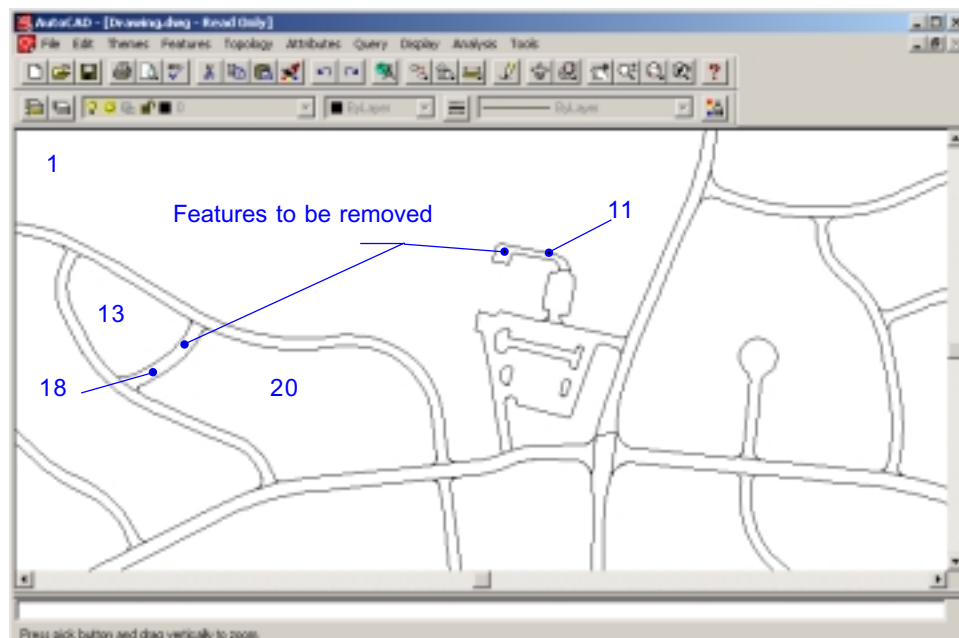

Figure 12
- (2) Using the IDENTIFY tool described earlier, note the POLYGON ID of each polygon that is to be merged. *In the sample coverage shown in figure 12, feature 11 is to be removed by merging it into feature 1 and feature 18 is to be removed by merging it into features 13 and 20. By default ArcCAD® gives the perimeter area of the coverage a POLYGON ID of 1.*
- (3) Follow the steps in section **3-a Preparing the data** to reopen the link table of the coverage that you are editing.
- (4) In this example all the features that are to be removed by merging them into nonpavement (unlinked) sections. To accomplish this the PIDs of features 11 and 18 must be changed to NONPAVEMENT in the link table (be careful to use the correct syntax when editing the PID column).
- (5) Any nonpavement features in the coverage that you wish to keep must be given a unique PID in order to prevent them from being merged into their adjacent nonpavement features. The most useful technique is to give the feature a descriptive PID. *i.e. if a gravel parking lot is in the coverage because it will be paved in the future its current PID will be NONPAVEMENT in the link table. If the DISSOLVE command is used this feature will be merged into its neighboring nonpavement features in the coverage. To prevent this the parking lot can be given a new PID such as GRAVEL1. This will prevent this feature from being removed from the coverage. Note that if the gravel lot has a neighboring lot that will become a separate section when the lots are paved its PID must also be unique or the two lots will be merged into each other. For this reason the second lot's PID could be changed to GRAVEL2.*
- (6) After the changes have been made to the link table click EXPORT TO DBASE FORMAT and then click UPDATE PAT/AAT FROM EXPORT. Once the update process is complete the status table below the link table will show any errors in link table. This works by comparing the PIDs that are in the link table with those in the PAVER database. Any PID that has been changed to a unique PID (such as GRAVEL1 in the example above) will show up as an error since that PID does not exist in the database. These errors can be overlooked without corrupting the DISSOLVE process.
- (7) Open ArcCAD® and load the theme that you wish to edit and create a new theme that will become the output theme.
- (8) From the pull down menu select ANALYSIS, DISSOLVE.
- (9) When prompted at the command line enter the original linked coverage for the input theme and the new coverage to be created as the output theme.
- (10) When prompted for the first item, enter “all” for last item accept the default value of none.
- (11) When the DISSOLVE command ends erase the information displayed on the screen and display the new output coverage. (If the information on the screen is not erased ArcCAD® will display the new coverage on top of the existing one.) Verify that the new coverage is correct and close ArcCAD®.
- (12) Open Micro PAVER and remove any information that is no longer needed in the database. (Note: this step is not necessary if the data is needed for future use).